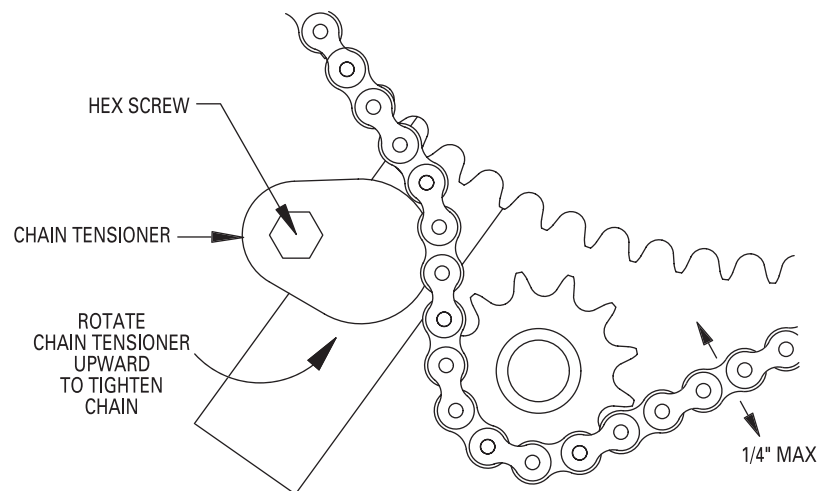

Figure 16
- To adjust, loosen hex bolt with 3/4" wrench and rotate chain tensioner toward chain as shown until chain moves no more than a total of 1/4". See Figure 16 below.